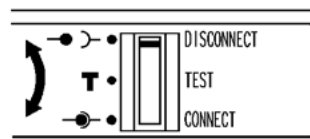

Fig. 12-7
- ④ Insert the drawout handle while pressing the OFF button. Check that the drawout position indicator indicates DISCONNECT (Fig. 12-7).